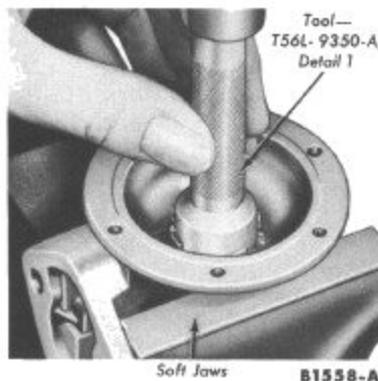

FIG. 33—Diaphragm Rod Oil Seal and Retainer Installation
1. Install a new diaphragm rod oil seal and retainer using Tool T56L-9350-A, Detail I (Fig. 33). Stake the retainer at four points.